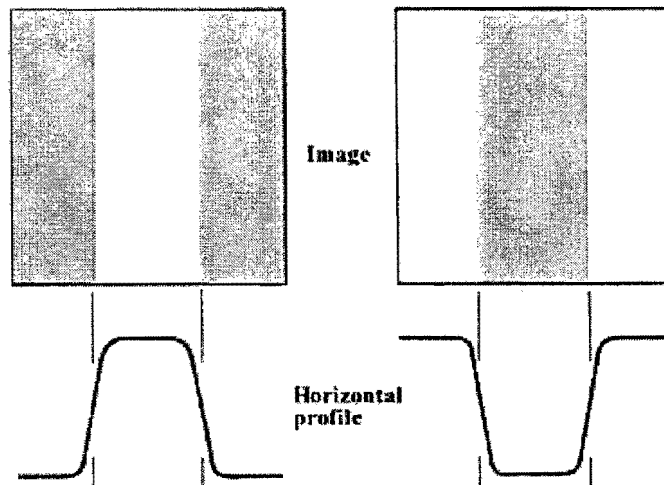

Figure 2
- (d) Suppose that we had used the edge model shown in Figure 2, instead of the ramp model of an edge. Sketch the gradient and Laplacian of the first- and second-derivative. [4 marks]